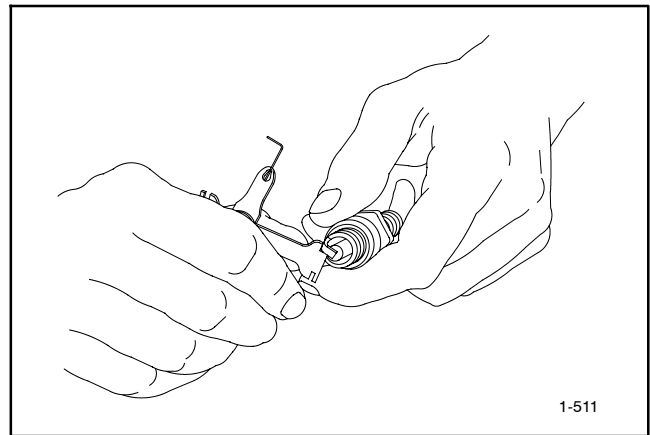

Figure 4-8 Spark Plug Gap Adjustment
13. Use a gapping tool to gently bend the side electrode closer to or farther from the center electrode to set the correct gap. See Figure 4-8. Position the side electrode directly over the center electrode.